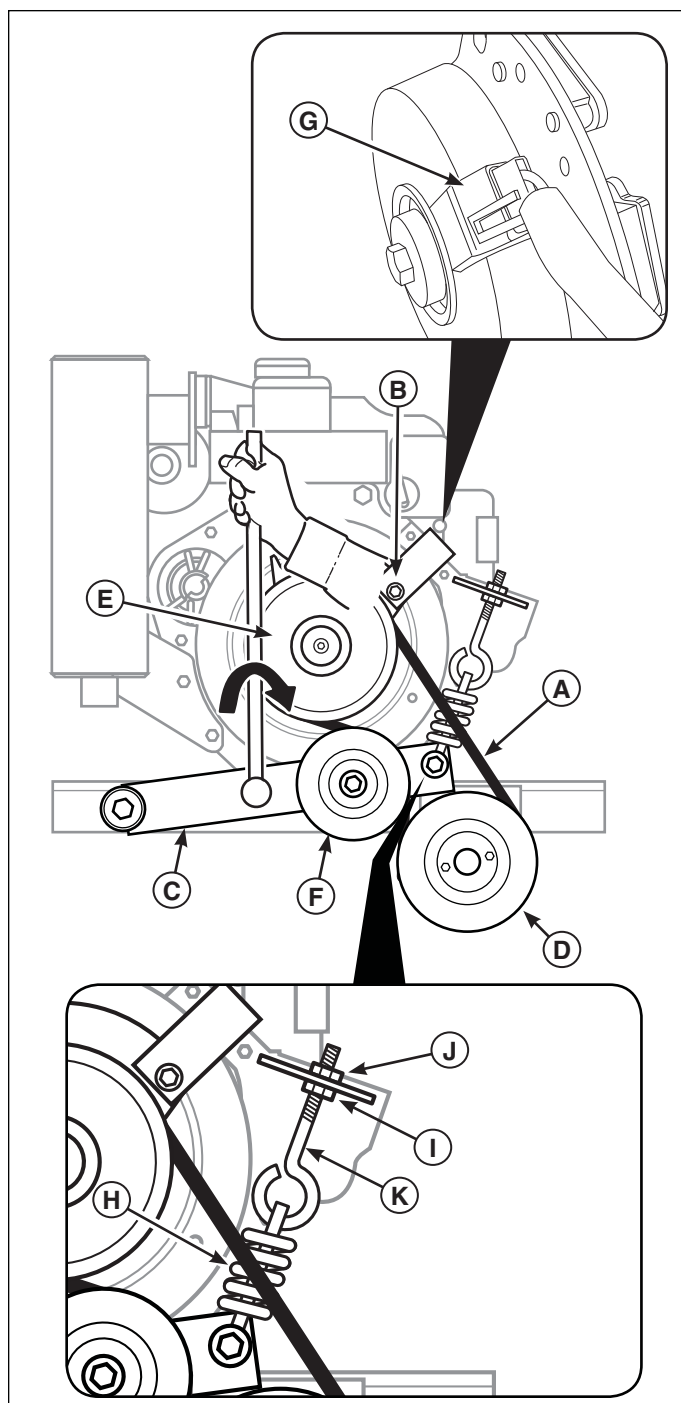

Figure 4. PTO Clutch Belt Replacement
1. Remove the PTO clutch anchor bolt (**B, Figure 4**).
1. Loosen the jam nut (**I, Figure 4**) on the spring adjustment eyebolt (**K**).